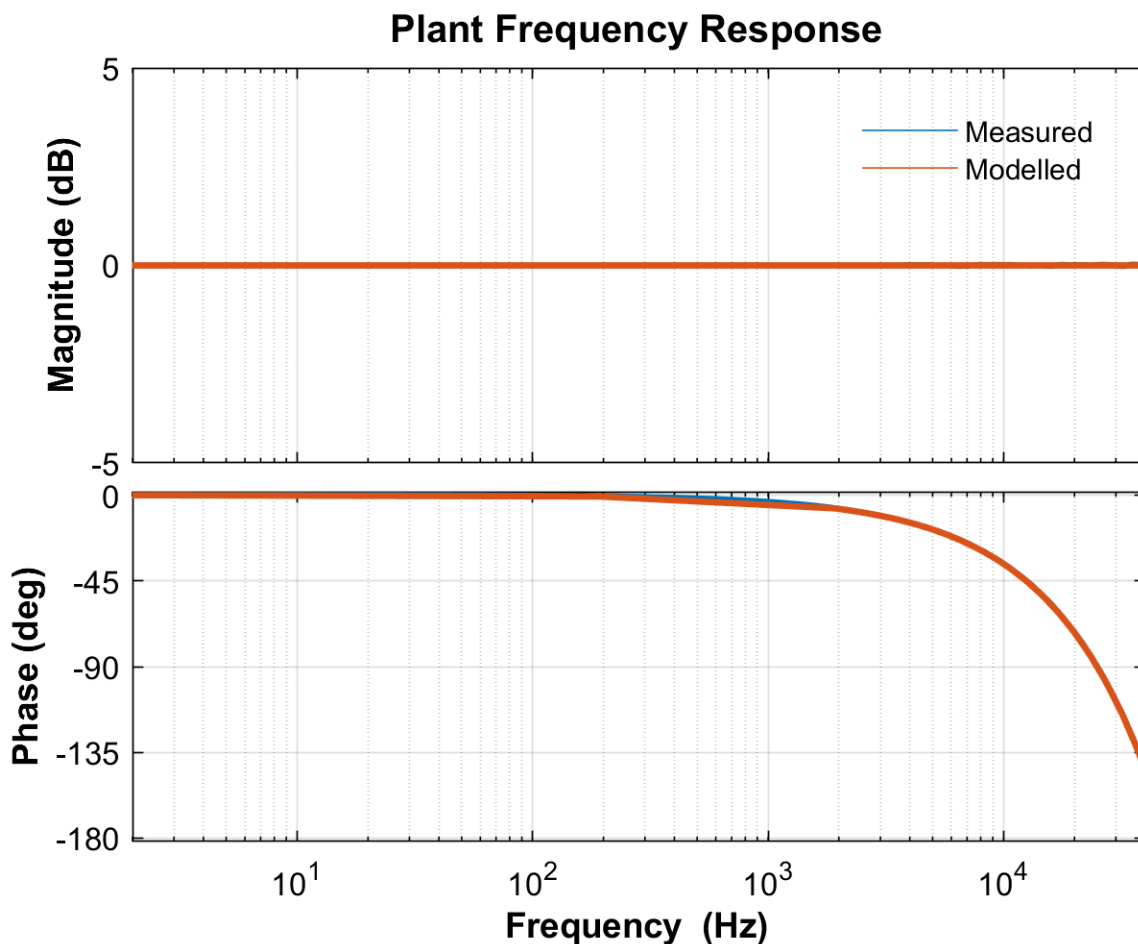
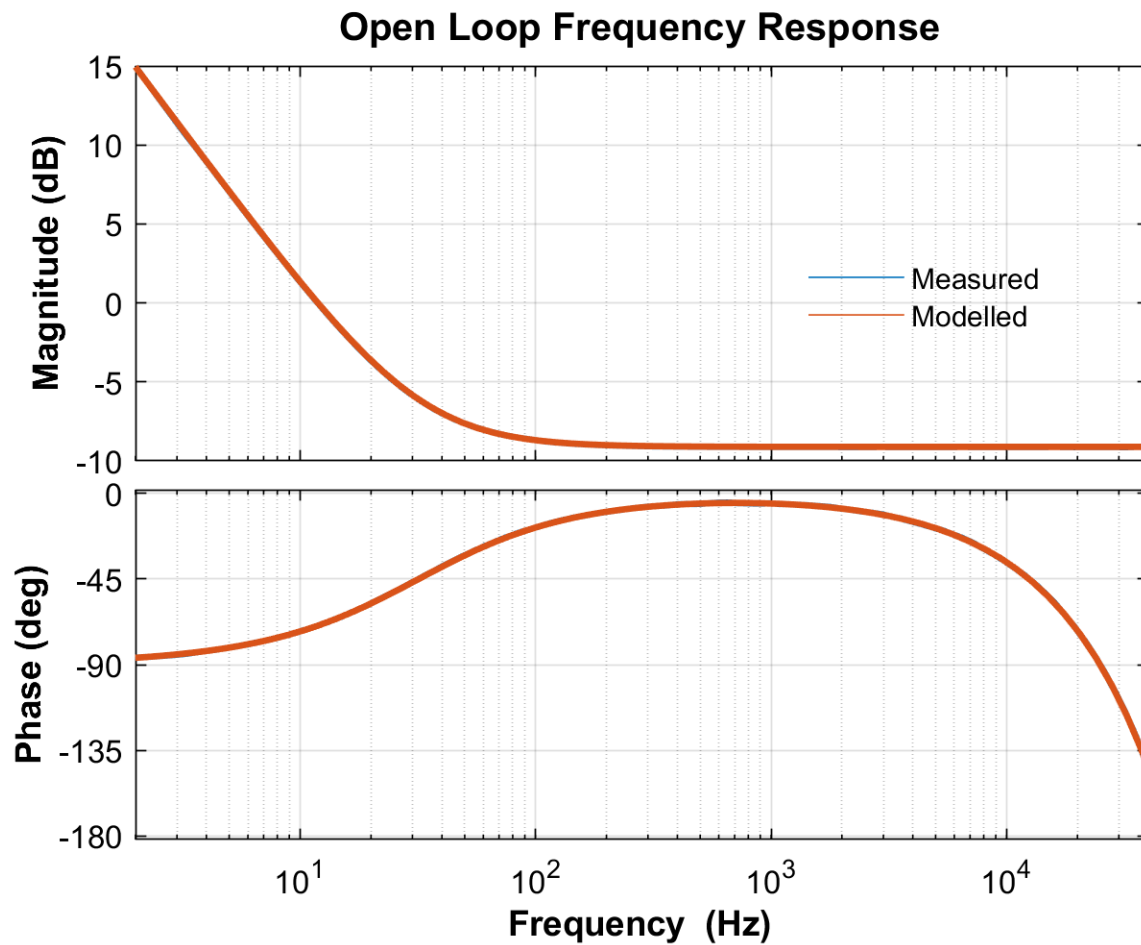

Figure 20. Plant Frequency Response Measured vs Modeled in Software Test Bench Example 1
Figure 21. Open Loop Frequency Response Measured vs Modeled for Software Test Bench Example
4. These are then compared with the frequency responses by simulating the same PI compensator in a simulation tool, such as MATLAB. This script is available along with the STB example 1 run data under the scripts folder in SFRA install directory. The file is called "STAB_Data_Compare_with_model.m". The comparison plots for plant is shown in Figure 20, and comparison for open loop is shown in Figure 21.